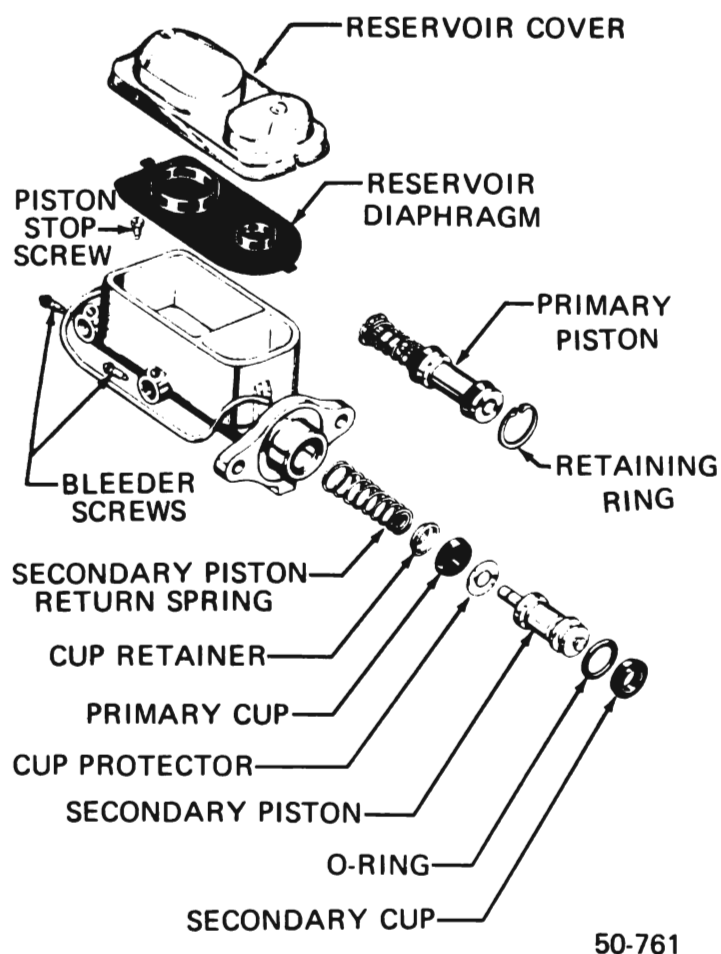

Figure 50-137 Exploded View - Master Cylinder
e. Disassemble the secondary piston assembly, as illustrated in Figure 50-137.
a. Dip the secondary piston parts in clean brake fluid and assemble the parts on the piston as shown in Figure 50-137. The large O-ring goes in the second